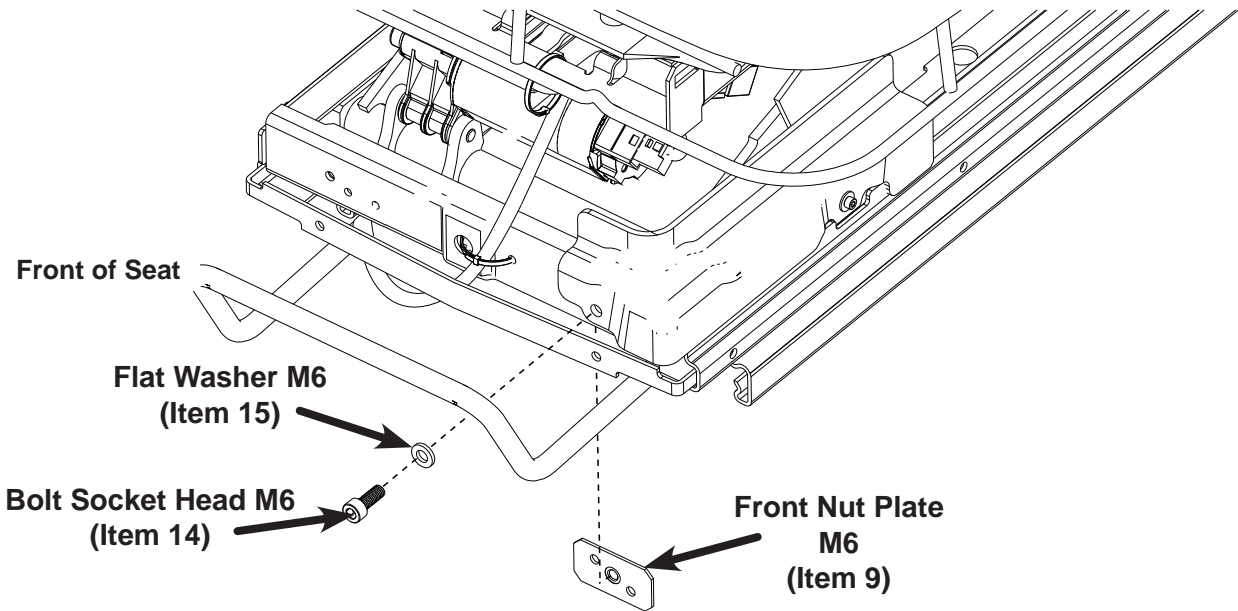

Fig. 16
- 23. Using hardware from **(BAG B)** hand start (1) BOLT Socket Head M6 - 1.0 x 16 (Item 14) with (1) FLAT WASHER M6 (Item 15) thru front of corner reinforcement into (1) NUT PLATE M6 (Item 9) See Fig. 16